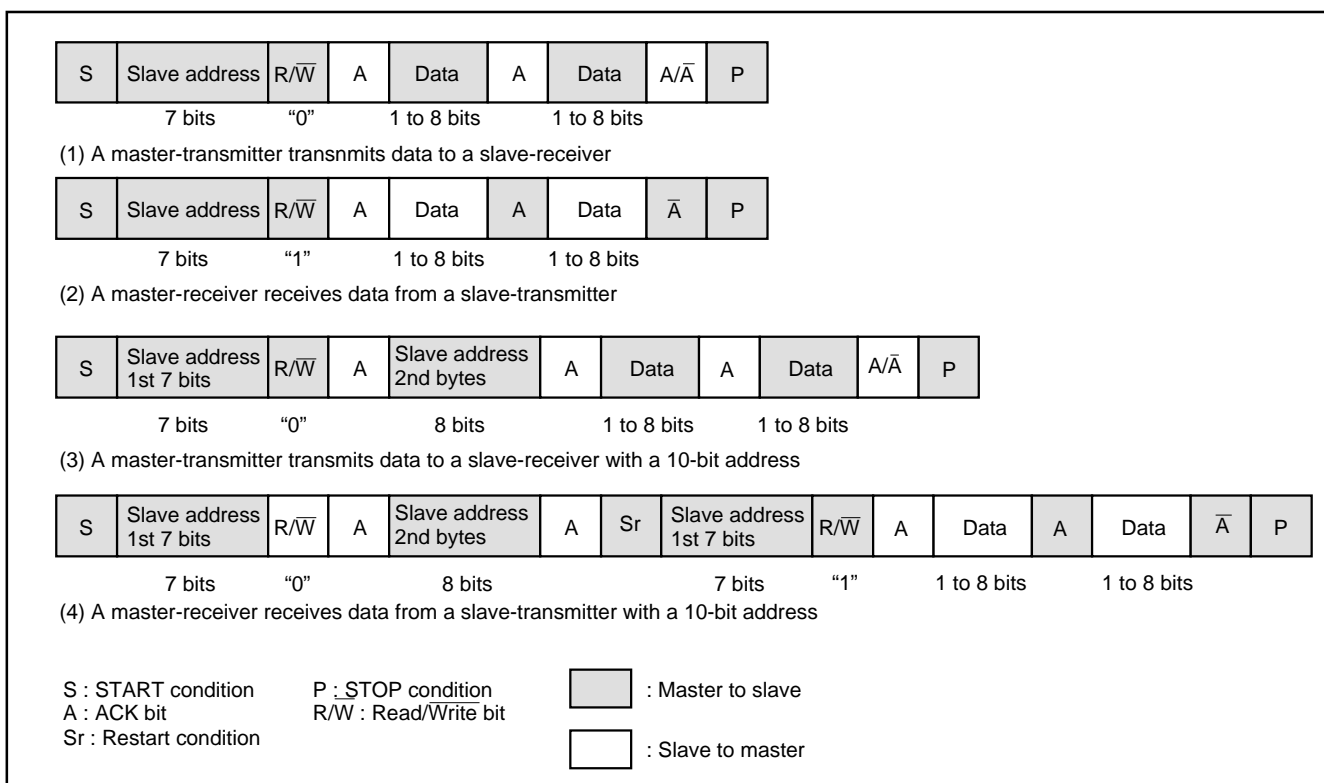

Fig. 35 Address data communication format
To adapt the 7-bit addressing format, set the 10BIT SAD bit of the I2C control register (address 002E16) to "0." The first 7-bit address data transmitted from the master is compared with the high-order 7-bit slave address stored in the I2C address register (address 002C16). At the time of this comparison, address comparison of the RWB bit of the I2C address register (address 002C16) is not performed. For the data transmission format when the 7-bit addressing format is selected, refer to Figure 35, (1) and (2).
When the first-byte address data agree with the slave address, the AAS bit of the I2C status register (address 002D16) is set to "1." After the second-byte address data is stored into the I2C data shift register (address 002B16), perform an address comparison between the second-byte data and the slave address by software. When the address data of the 2 bytes agree with the slave address, set the RWB bit of the I2C address register (address 002C16) to "1" by software. This processing can make the 7-bit slave address and R/W data agree, which are received after a RESTART condition is detected, with the value of the I2C address register (address 002C16). For the data transmission format when the 10-bit addressing format is selected, refer to Figure 35, (3) and (4).